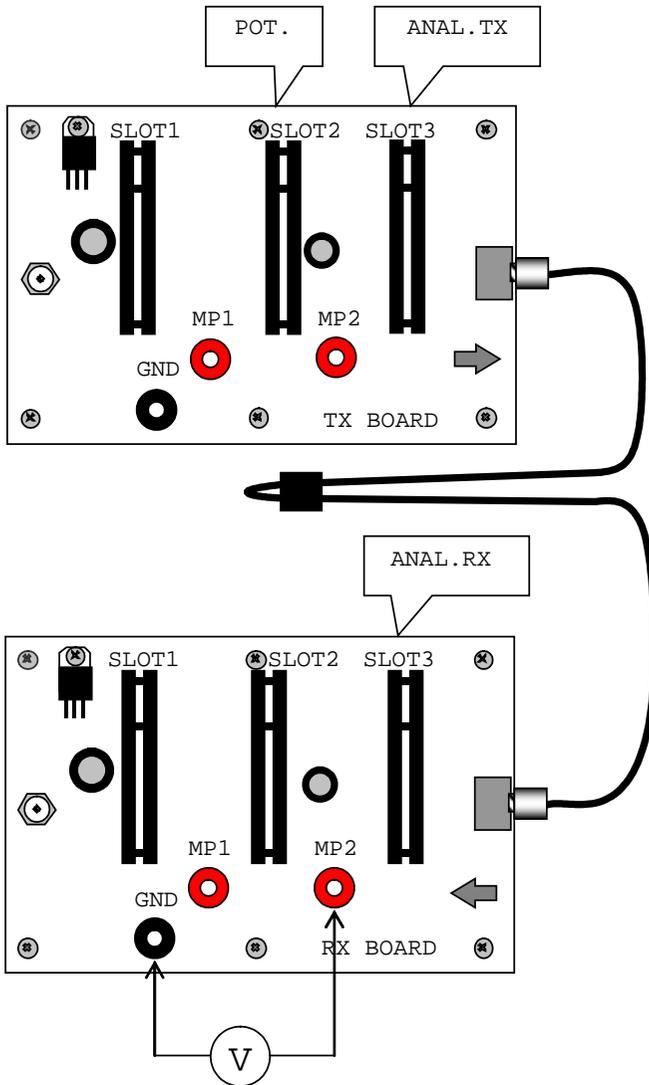

Figure 10: The set-up diagram of the U-probe experiment
1. Insert the analogue transmitter into Slot 3 and the potentiometer into Slot 2 of the main transmitter panel (Figure 10).